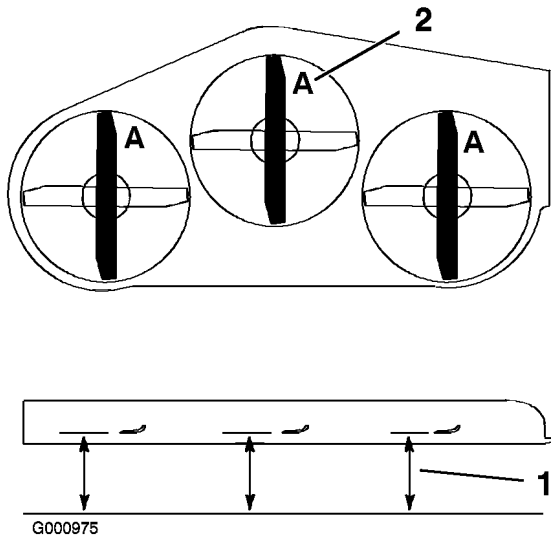

Figure 72
1. Rotate the blades until the ends face forward and backward (Figure 72). Measure from a level surface to the cutting edge, position **A**, of the blades (Figure 72). Note this dimension.